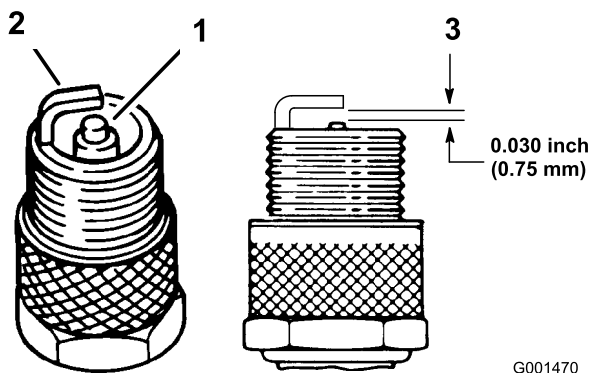

Figure 40
3. Check the gap between the center and side electrodes (Figure 40). Bend the side electrode (Figure 40) if the gap is not correct.
3. Connect the wire to the spark plug (Figure 40).
1. Look at the center of the spark plug (Figure 40). If you see light brown or gray on the insulator, the engine is operating properly. A black coating on the insulator usually means that the air cleaner is dirty.